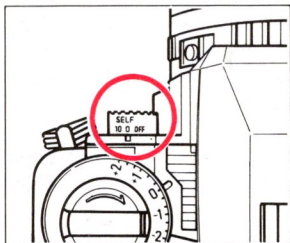

Fig. 37
- ★ Set "0" in the Self position to the index line to release the shutter instantly when the Self/Interval Timer Button is pressed. This serves as a handy "Left-Hand" shutter release. (Fig. 37)